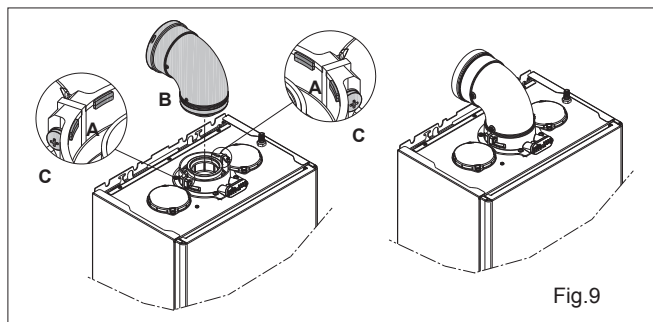
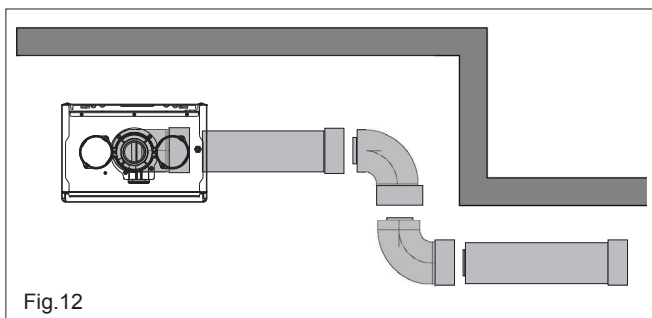

Fig.9
Fig.12
NOTE (Fig.9): The appliance incorporates a 'click-fit' flue connection. Ensure that both screws 'C' on the 'click-fit' have been slackened off. Ensure that the connector is correctly aligned with the 'click-fit' and insert it into the 'click-fit' until it clicks into position (this is when the tabs at points 'A' are located in the groove of the flue bend connector). Both screws (C) should now be tightened.
Connect the bend – supplied with the terminal kit – to the top of the boiler (see Fig.9). The additional bends & extensions have push-fit connections, care should be taken to ensure that the correct seal is made when assembling the flue system. Connect the required number of flue extensions or bends (up to the maximum equivalent flue length) to the flue terminal (Fig.12). The flue system should have a 3° rise from the boiler to outside, to ensure any condense fluid that forms, is allowed to drain back to the appliance.
When cutting an extension to the required length, you must ensure that the excess is cut from the plain end of the extension (Fig.12). Remove any burrs, and check that all seals are located properly. You must ensure that the entire flue system is properly supported and connected. Seal the flue assembly to the wall using cement or a suitable alternative that will provide satisfactory weatherproofing. The interior and exterior trim can now be fitted.